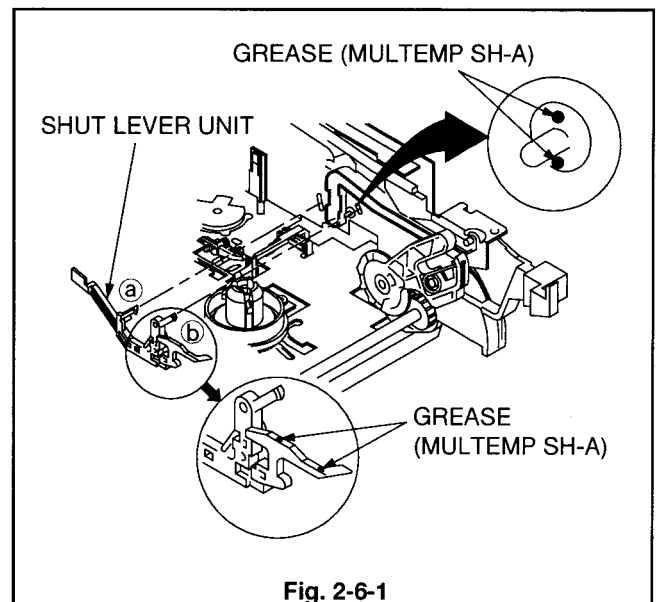

Fig. 2-6-1
- 1 Unfasten the two catches (a) and (b) of the SHUT LEVER UNIT shown in Fig. 2-6-1 to remove the SHUT LEVER UNIT.
- 1 Apply GREASE (MULTEMP SH-A) [859D055O80] to the area specified in Fig. 2-6-1 on the MAIN PLATE ASSY.
- 2 Apply GREASE (MULTEMP SH-A) [859D055O80] to the area specified in Fig. 2-6-1 on the new SHUT LEVER UNIT.
- 3 Install the SHUT LEVER UNIT shown in Fig. 2-6-1.